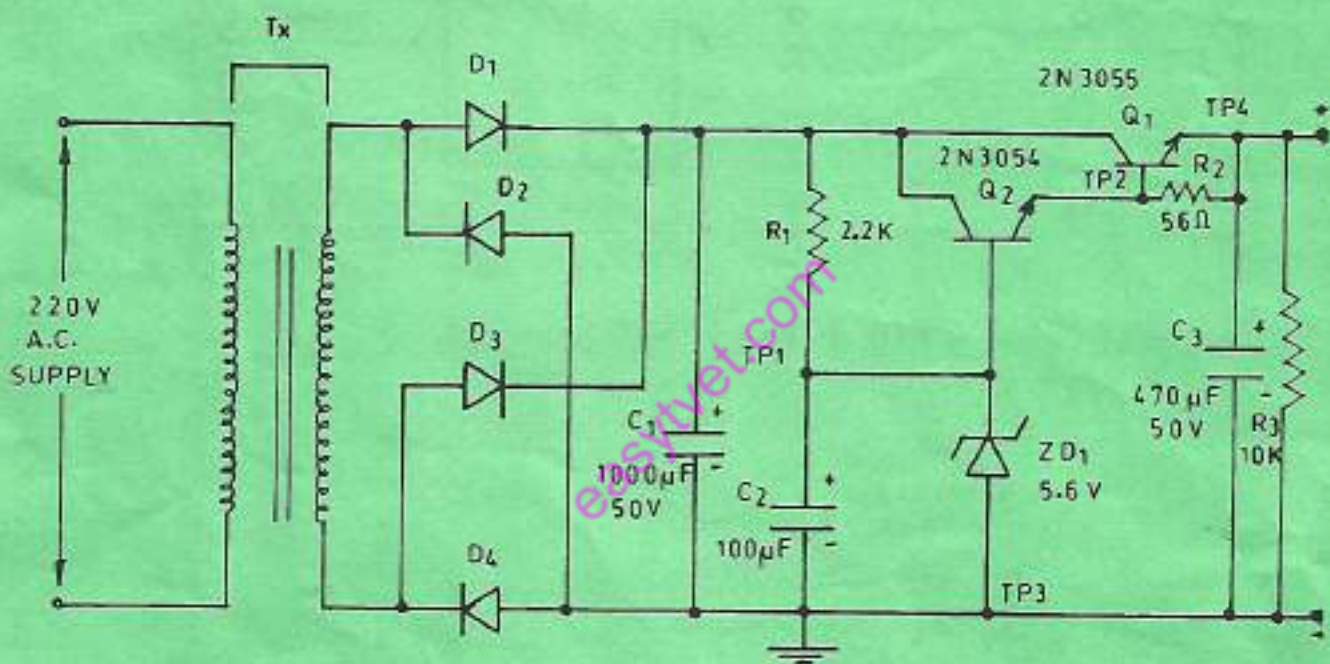

Fig. 4
4. **Figure 4** shows circuit diagram of a stabilised d.c power supply unit.